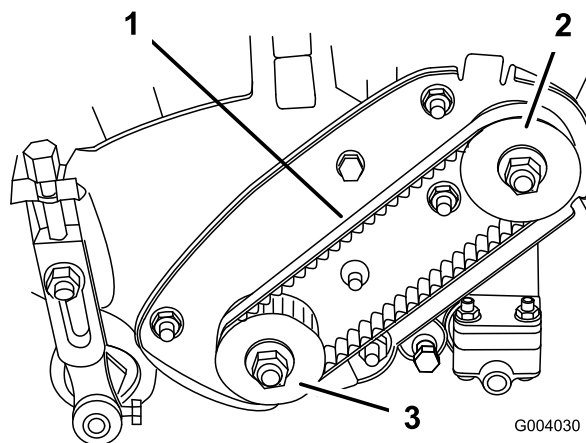

Figure 33
2. Check tension by depressing belt (Figure 33) at mid span of pulleys with 4 ± 1 lb. of force. Belt should deflect 1/4 inch. If deflection is incorrect, proceed to next step.